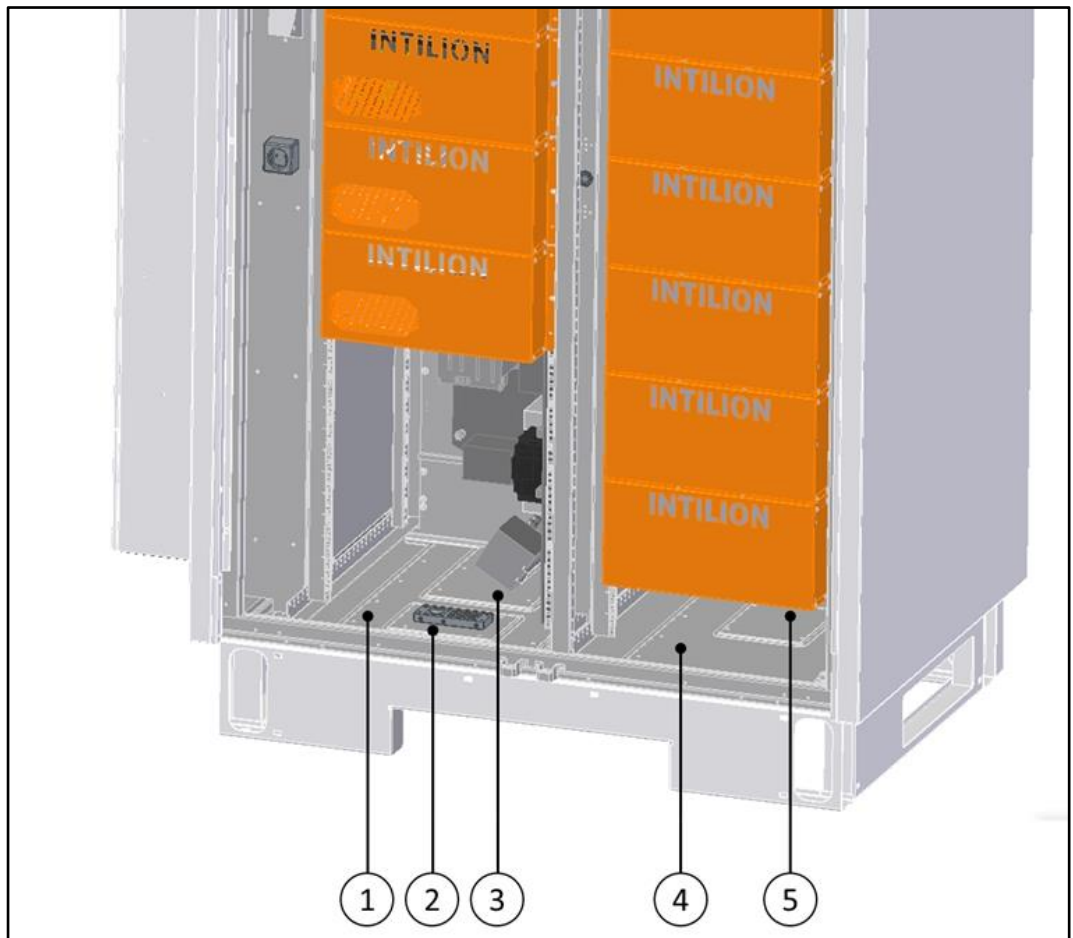

Fig. 31 Disassembly of the transport pallet – removal of the base plates
- If removed, attach the base plates (4) and (5) (see Fig. 31).